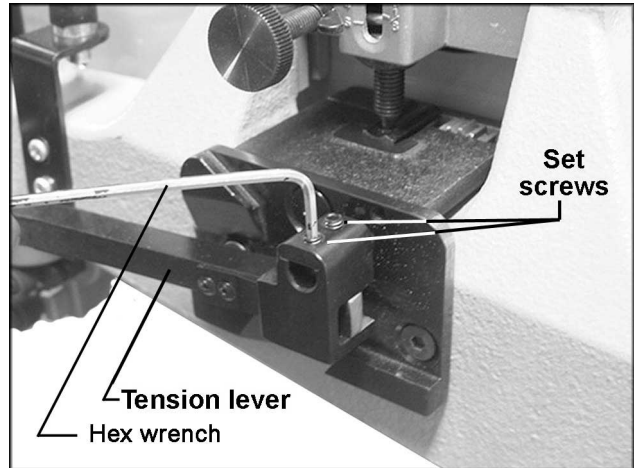

Fig. 11a
23. Install blade tension lever (Fig. 11a) and tighten the set screws, using a 3mm hex wrench. The movement of the blade tension lever is explained under "Changing Blades".